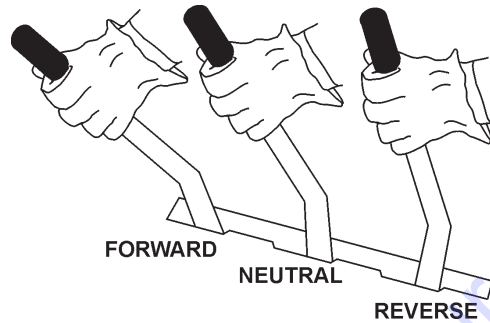

Figure 15. Traveling Forward
2. To make the roller move in a **forward direction**, move the transmission control lever forward as shown in Figure 15. Make sure lever is securely place into notch.